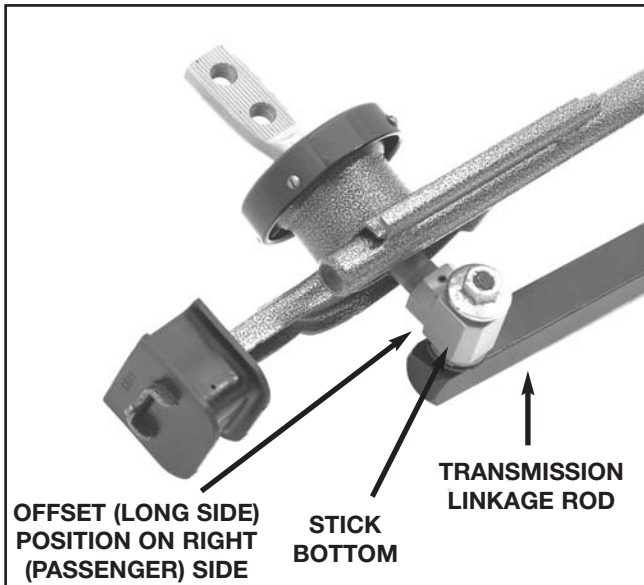

Figure 2
7. From underneath the car, use a 13mm wrench to remove the hex nut that secures the transmission linkage rod to the bottom of the factory shifter (see fig.2). Disconnect the rod by pulling it out of the shifter stick bottom.
6. Lightly lubricate stem on shift rod linkage and insert into bushings located in shifter stick bottom. **Important: Offset (long side) of connector located on stick bottom should be positioned to the right (passenger) side (see fig.2).** Fasten with hex nut previously removed and tighten securely using a 13mm wrench. **Note: We recommend using thread locker on the threads to prevent loosening.**
7. From inside the car, attach the Hurst upper stick to the stick bottom with the two (2) button head socket bolts and star tooth lock washers supplied. **Important: Be sure that serrations on upper stick engage serrations on stick bottom.** Using a 7/32" hex key wrench, tighten bolts 30-35 ft. lbs. torque.